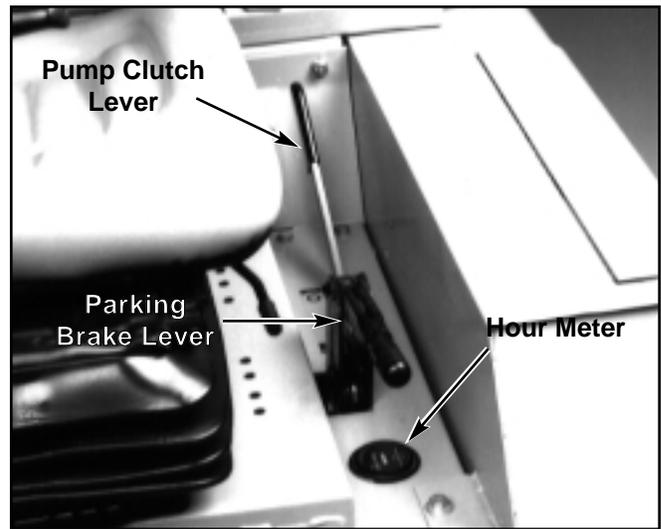

Figure 3-5
7. **Pump clutch lever (Fig. 3-5)** – this lever engages and disengages the hydraulic pump drive belt. Push forward on lever to engage the hydraulic pump drive. Pull back on lever to disengage.
8. **Parking brake lever (Fig. 3-5)** – engage the parking brake by rotating the lever up and back until it over-centers and locks. Release by rotating the lever forward and down.
**11. Electronic hour meter (Fig. 3-5)** – registers 1/10 hour increments up to 9,999.9 total hours. Connected to the ignition switch, the meter records the accumulative time while the ignition key is switched to the ON position.